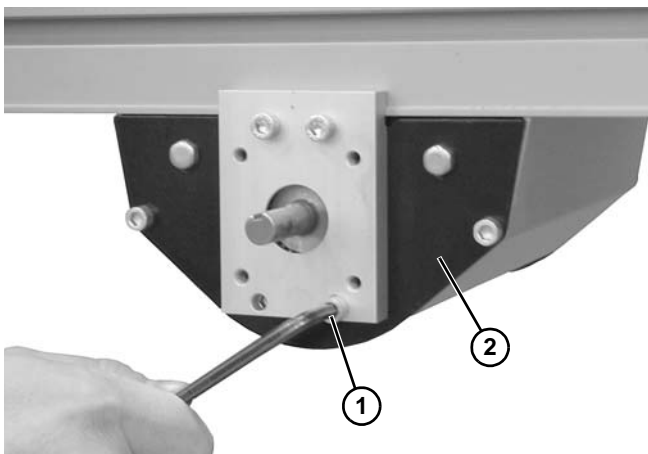

Figure 52
2. Remove screw (**Figure 52, item 1**) from each side of mid drive assembly (**Figure 52, item 2**).